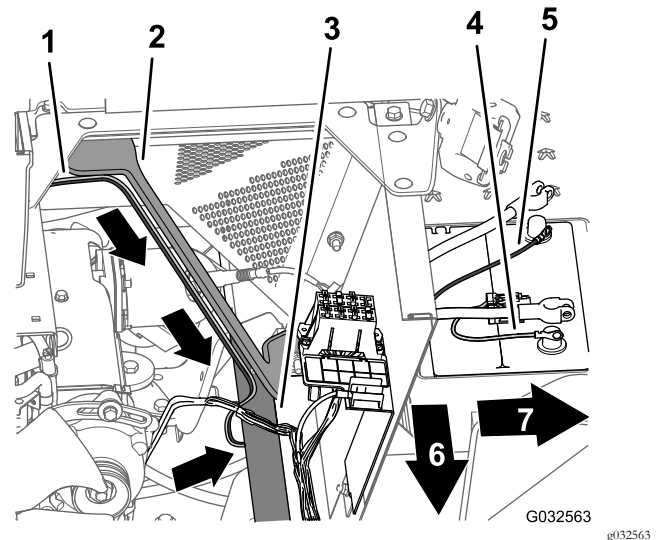

Figure 138
3. Route the 165 cm (65 inches) branch of the wire harness down along the left support for the engine shroud and under the left frame tube (Figure 138).
4. Route the 50 A fuse and the positive and negative ring terminals of the 165 cm (65 inches) branch of the wire harness to the top of the battery (Figure 138).